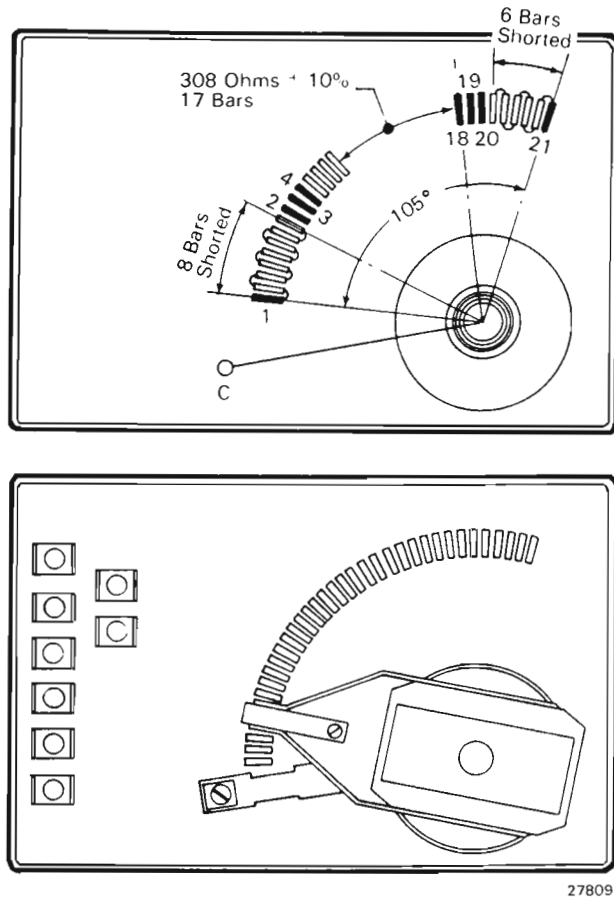

Fig.4 - Dynamic Brake Rheostat Alignment
- Press down on dynamic brake axle from the top of housing to remove any slack in bushings and rotate rheostat brush until it rests on the fourth and fifth bar, as shown in Fig. 4.